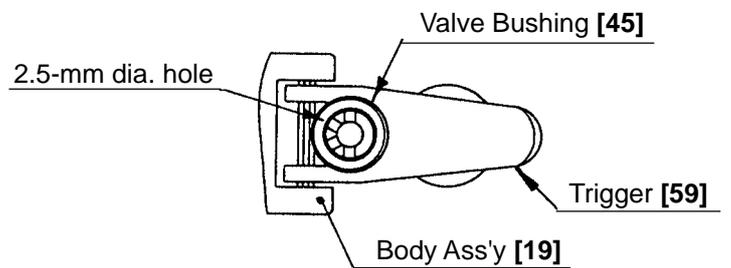

Fig. 19
- Plunger Spring [41] and Plunger (B) Spring [51] are small and apt to be twisted and lost. Be careful when handling them.
- Mount the Valve Bushing [45] again facing the four 2.5-mm dia. holes at its center to the Body Ass'y [19] side (Fig. 19).